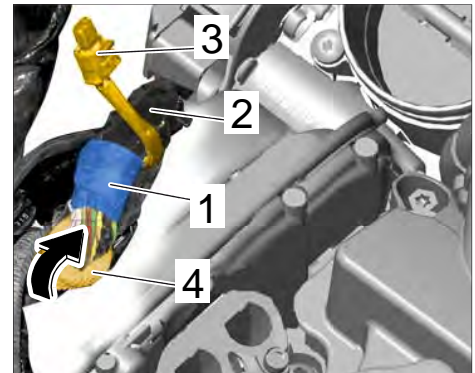

Figure 5
- 3.11 Wrap fabric tape ⇒ *Figure 5 -item 1-* around the main wire harness ⇒ *Figure 5 -item 2-* and connector wires ⇒ *Figure 5 -item 3-* again.
- 3.12 Pull sleeve ⇒ *Figure 5 -item 4-* back to its original position on the main wire harness ⇒ *Figure 5 -item 2-*.